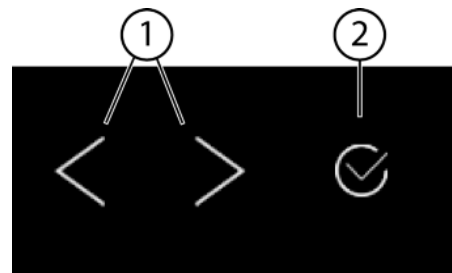
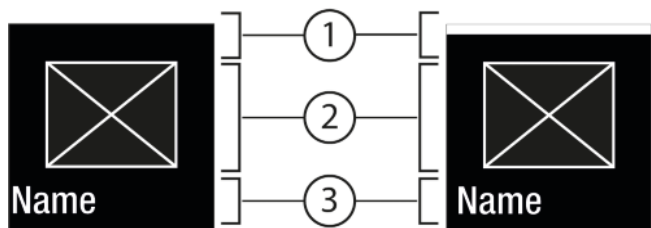
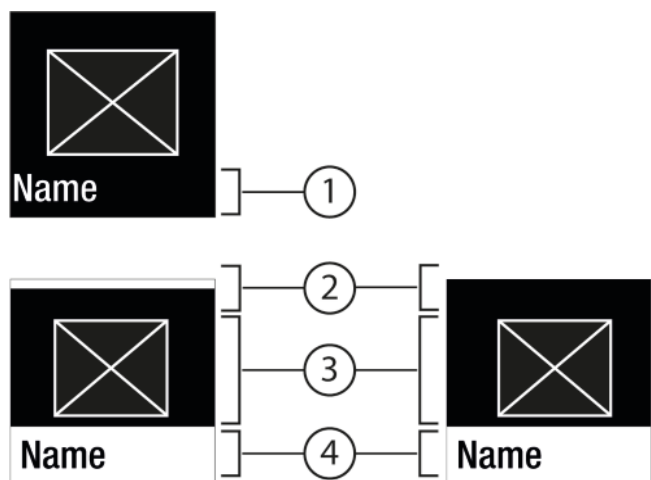

Fig. 5
Fig. 6
Fig. 7
(1) Left/right navigation arrow (2) Confirm
Left/right navigation arrow Fig. 5 (1):
Confirm Fig. 5 (2):
- Navigate with the left/right navigation arrow Fig. 5 (1).
- Press Confirm Fig. 5 (2) to activate Fig. 6 (1) / deactivate Fig. 6 (1) the function/setting.
- Press Confirm Fig. 5 (2) to go to the submenu Fig. 7 (4).
- Set new level: Press Confirm Fig. 5 (2) to select a deselected value Fig. 6 (1).
- Back to menu: Press Confirm Fig. 5 (2) to select the selected value Fig. 6 (2).
- ▶ Press the navigation arrows Fig. 5 (1) until appears.
- ▶ Press Confirm Fig. 5 (2).
- ▶ Press the navigation arrows Fig. 5 (1) until the function appears.
- ▶ Use the navigation arrows Fig. 5 (1) to select the setting value.
- ▶ Press Fig. 5 (2) confirm.
- ▷ Status: on Fig. 6 (1) appears briefly in the submenu Fig. 7 (4).
- ▶ Press the navigation arrows *Fig. 5 (1)* until Settings  appears.
- ▶ Press Confirm *Fig. 5 (2)*.
- ▶ Press the navigation arrows *Fig. 5 (1)* until you can see the setting you want.
- ▶ Press Confirm *Fig. 5 (2)* for 3 seconds.